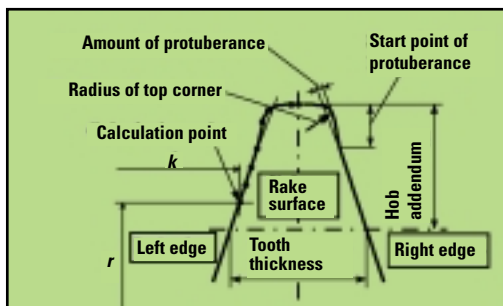

Figure 10—Profile and calculation point on cutting edge of hob tooth.
**Procedure to calculate traces of cutting edges.** The shape of a hob cutting edge including protuberance is expressed point by point, as shown in Figure 10. The trace of a point on the cutting edge relative to the work gear during cutting can be obtained by calculating the point's movement due to hob rotation and feed and work gear rotation. The trace of a hob cutting edge can be expressed by traces of point groups on the cutting edge.